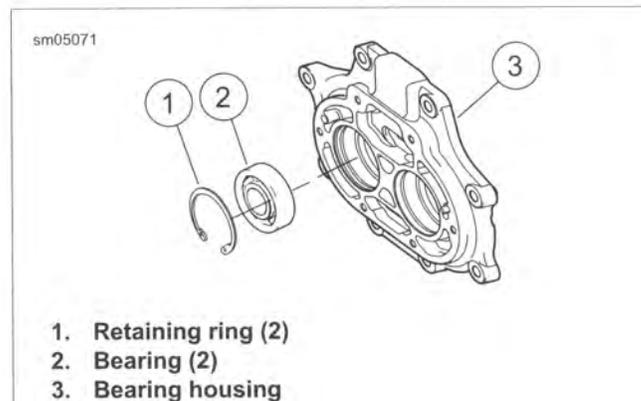

Figure 6-25. Bearing Housing Bearings
1. See Figure 6-25. Remove the retaining rings (1).
4. See Figure 6-25. Install beveled retaining ring (1) with the flat side against the bearing.